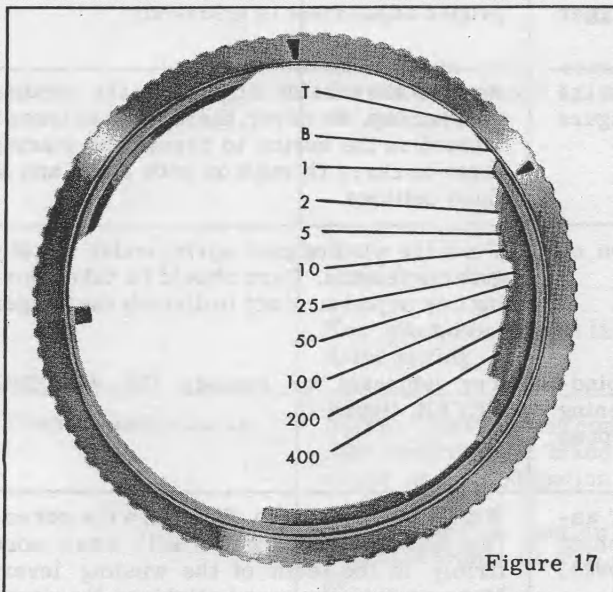
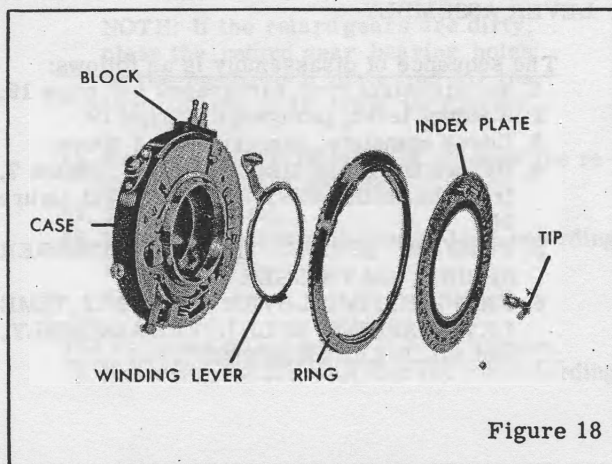
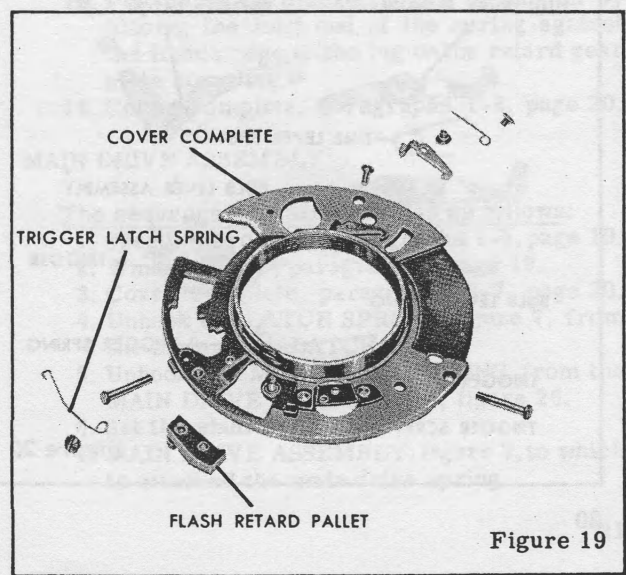
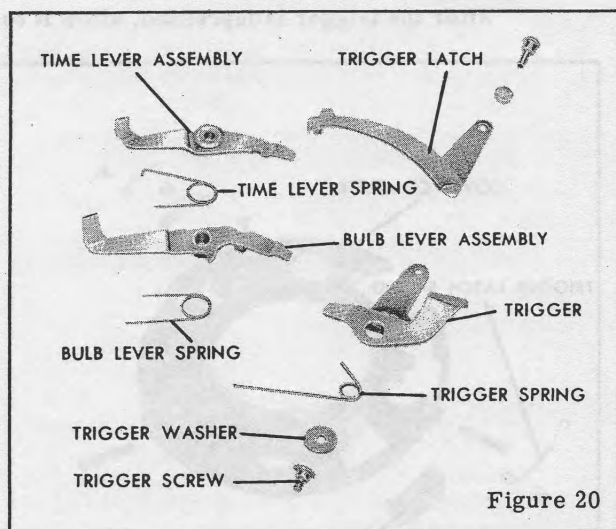

Figure 17
Figure 18
Figure 19
Figure 20
It may be necessary to reduce the tension on the TRIGGER LATCH SPRING, figure 19.
Excessive retard sector travel.	Swedge the speed control RING, figure 18, at the area controlling the slow speed (see figure 17).
The winding lever may be binding around the central opening of the cover or on the speed INDEX PLATE, figure 18.	Try lubricant or replace the WINDING LEVER, figure 18.
2. Diaphragm pointer TIP, figure 18.
1. Speed control ring, with shutter in tripped position. Be sure the projecting lug on the BULB LEVER ASSEMBLY, figure 20, the studs on the retarding SECTOR WITH STUD, figure 6, and the PALLET BRACKET with stud assembly are resting against the inside edge of the speed control ring and are not underneath the ring.
2. WINDING LEVER, figure 18.
CAUTION: Do not touch the TRIGGER LATCH, figure 20, as it may release the winding gear spring tension.
Trip the shutter and lightly hold the winding lever down around the central collar on the cover. As the shutter is tripped, the end of the latch should fall into the slot on the cover. If it does not, add more tension on the TRIGGER LATCH SPRING, figure 19. Check for a bind between the trigger latch and the TRIGGER, figure 20, at the point of attachment. The winding lever should contact the trigger latch; push the latch out of the slot in the cover and open the shutter blades. After the shutter has been tripped, the latch should return to a position where it is resting on the ledge just above the small slot in the cover.
3. TRIGGER LATCH SPRING, figure 19.
4. Lift up the loose end of the TRIGGER LATCH, figure 20, sufficiently to clear the COVER COMPLETE, figure 19. Move the end of the latch until it is clear of the CASE, figure 18.
6. FLASH RETARD PALLET assembly, figure 19.
5. TRIGGER SCREW, figure 20, TRIGGER SPRING, and TRIGGER WASHER.